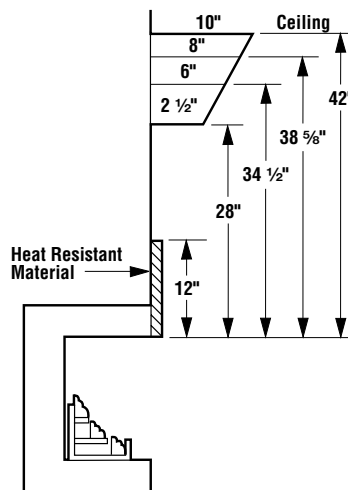
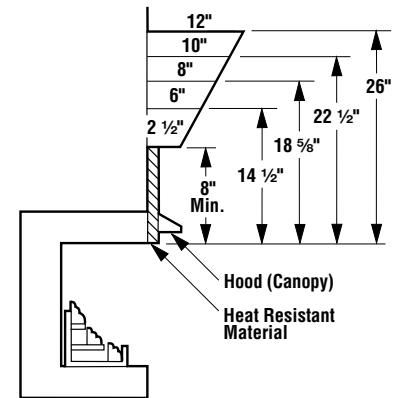

Figure 4
Figure 5
12" or more	Adjustable canopy not required. Observe profiles shown in Figure 4.
8" minimum to 12"	Install adjustable canopy and observe profiles shown in Figure 5. or Extend heat resistant material to at least 12" and observe profiles shown in Figure 4.
Step 4. Wood mantel, shelf or combustible projection requirements: To install a wood mantel, shelf or other combustible projection directly above the fireplace (firebox), refer to Table 3 and to Figures 4 and 5 for installation profiles.